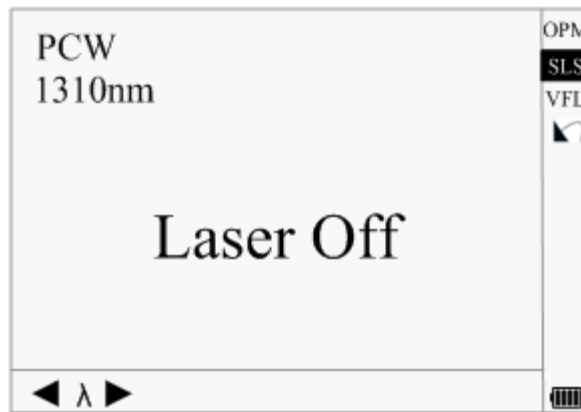

Figure 4-11. Stabilized Laser Source
- Enter PM/LS interface as described in 3.4.3.2.7. Use [▲] and [▼] to highlight SLS, and press [Enter] to enter SLS interface as shown in Figure 4-11.